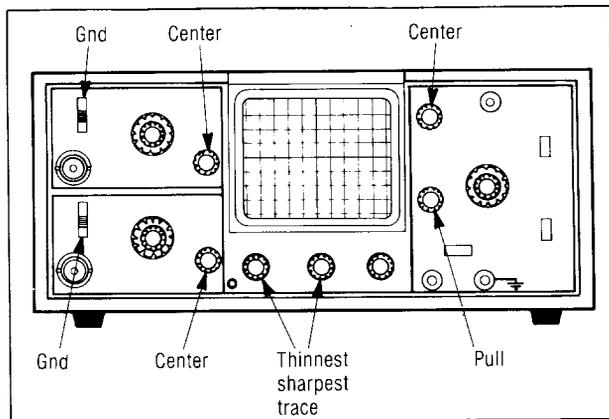

Figure 6. Initial Control Settings.
INITIAL STARTING PROCEDURE (refer to Fig. 6)
5. Calculate the voltage reading as follows: Multiply the vertical deflection (in divisions) by the VOLTS/DIV control (9) setting (see example Fig. 6). Remember that the voltage reading displayed on the oscilloscope is only 1/10th the actual voltage being measured with the 10:1 probe.
6. Calibration accuracy of this oscilloscope may be occasionally checked by observing the 1-volt peak-to-peak square wave signal available at the CAL 1 kHz 1 V p-p terminal (7). This calibrated source should read exactly 1 volt peak-to-peak (0.1 volt when measured with 10:1 probe). If a need for recalibration is indicated, see the "SERVICING" section of the manual for complete procedures.